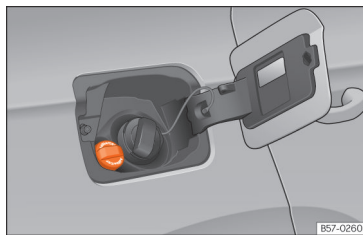

Fig. 188 AdBlue tank cap®.
- Open the tank flap >>> **Fig. 188**.
- Turn the SCR tank cap anti-clockwise >>> **Fig. 188**.